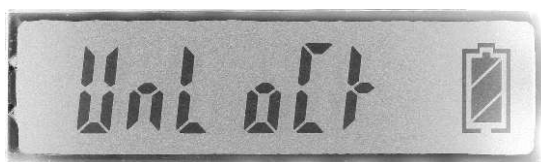

Fig 10: LOCK
- Touch the CH/ON key slightly to select the edited parameter of Lock/Unlock (refer to Fig 10 & 11), then use the SELECT key to specify Lock or Unlock.